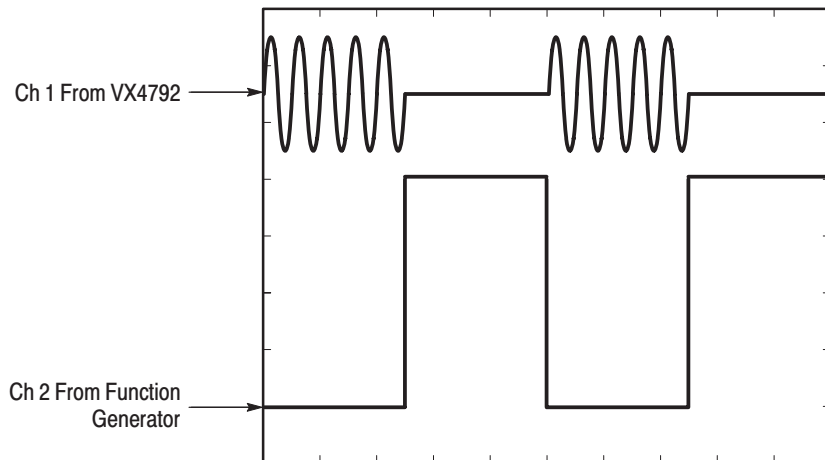

Figure F-8: Waveform Output Signal with Negative Gate Signal
- d. Check gated mode with a negative gate signal: Check that the oscilloscope displays a sine wave while the gate signal is low (Figure F-8).